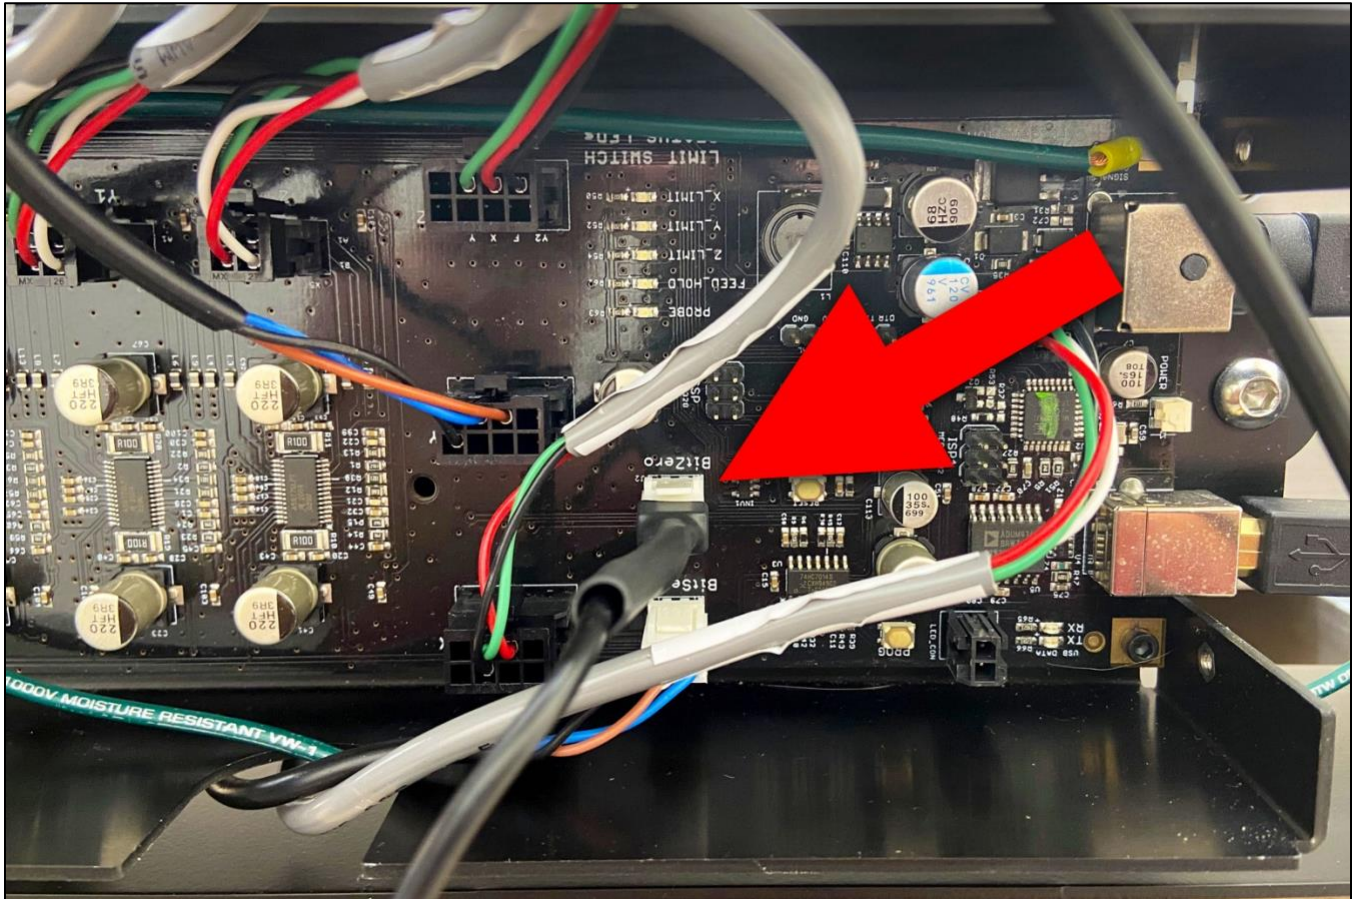

Figure 8
1. Connect the BitZero V2 to the *BitZero* port. See **Fig. 8**.